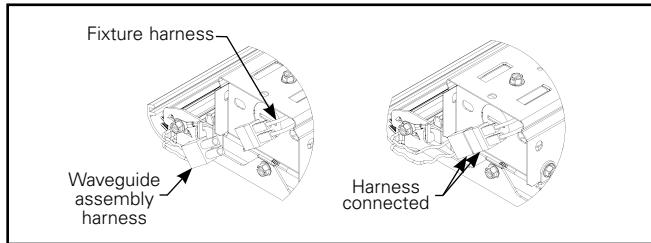

Figure 6.
5. Connect LED wire harness at the end of the waveguide assembly (Figure 6)